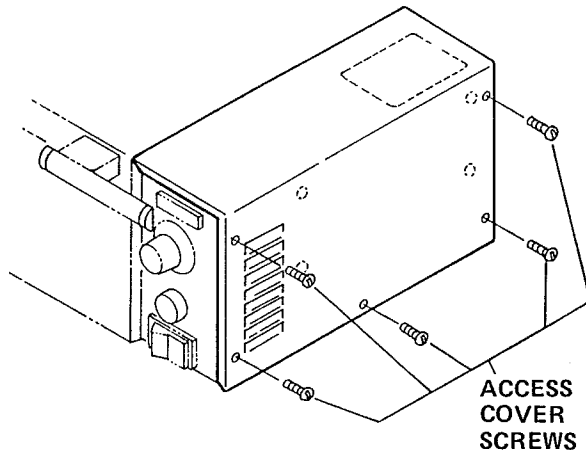

Figure 1
- 1.2 Remove 5 (five) screws as shown in Figure 1.
- 1.2 Remove the five (5) screws as shown in Figure 1.